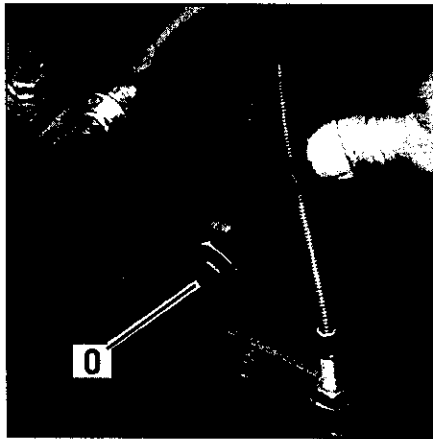

Figure 2-10: Gear oil level check plug.
3. Remove the oil level check plug (O, Figure 2-10) on the left-side of the transmission. (Due to dried paint on the plug threads, it may require some force to remove the plug the first time.) The gear oil level is correct if oil starts to flow out of the hole as the plug is removed. If so, securely reinstall the plug.
- (b) Using a clean funnel, slowly add gear oil until it flows from the oil level check hole (O, Figure 2-10). Securely reinstall the oil level check plug (O).